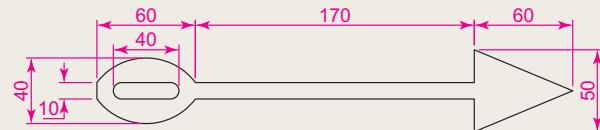

Fig. 3.54 Exercise 10
10. Construct Fig. 3.54 using the **Line** and **Arc** tools. Then change all widths of lines and arcs to a width of **2** with **Edit Polyline**.